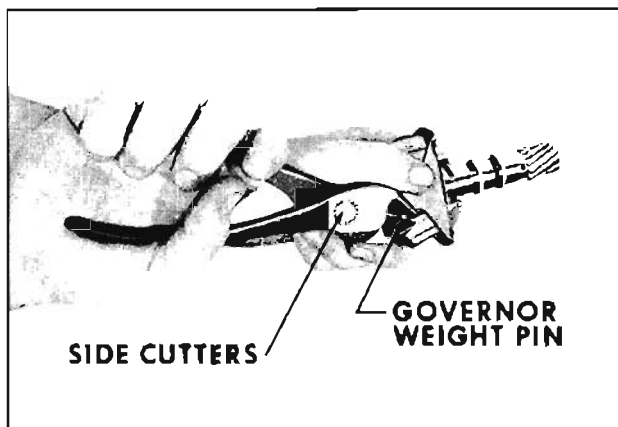

Fig. 6-372 Cutting Governor Weight Pins
1. With side cutters, remove governor weight pins and discard. (Fig. 6-372)